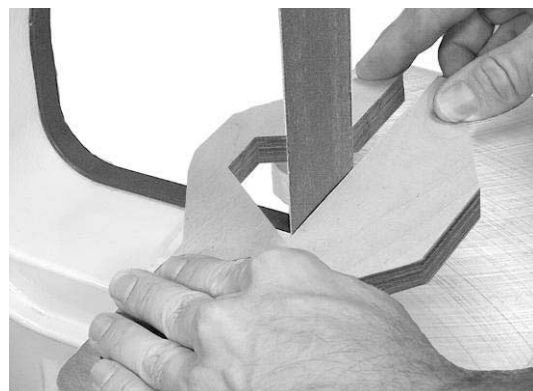

Figure 21
- Sanding in tight areas with the sanding belt. See Figure 21.